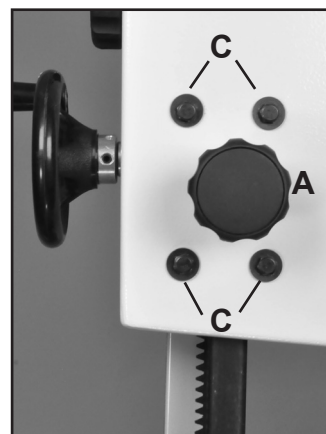

FIGURE 29
4. Loosen the four Hex Bolts (#2C) located at the rear of the top frame. (Fig. 29, C). This will allow the